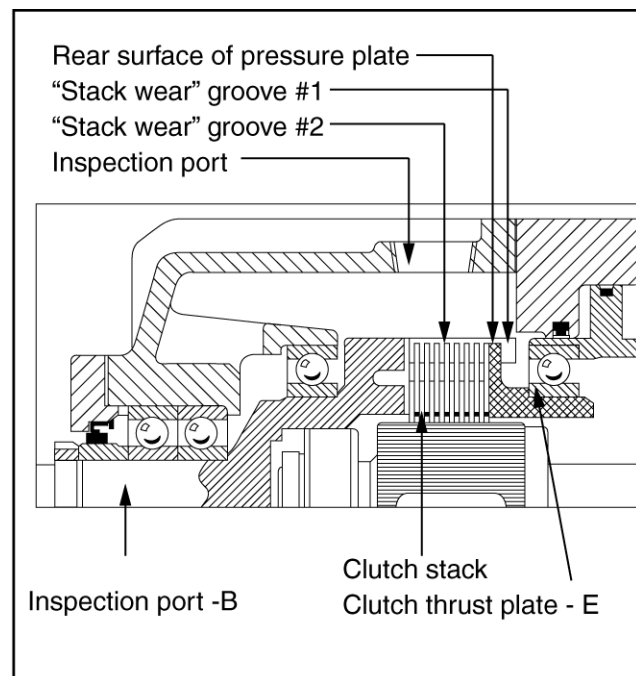

Figure 11.3 BRAKE AND CLUTCH STACKS FOR WEAR
6. Using a flashlight, observe the clutch stack through the inspection port (A) (see figure 11.3).